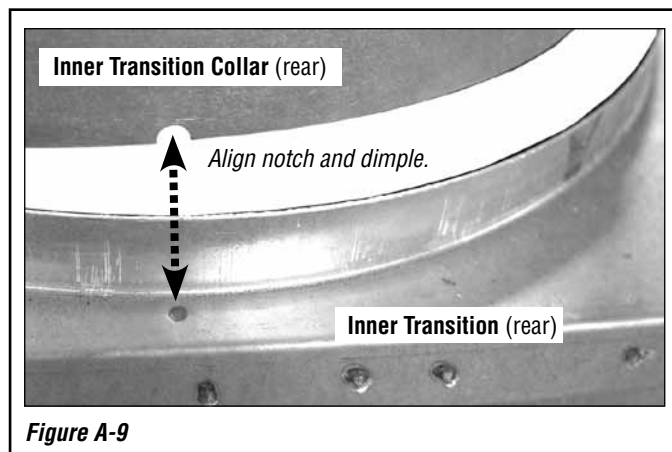

Figure A-9
- 5.2. See **Figure A-9, below**. Align the notch in the rear of the inner transition collar with the dimple in the rear of the inner transition.